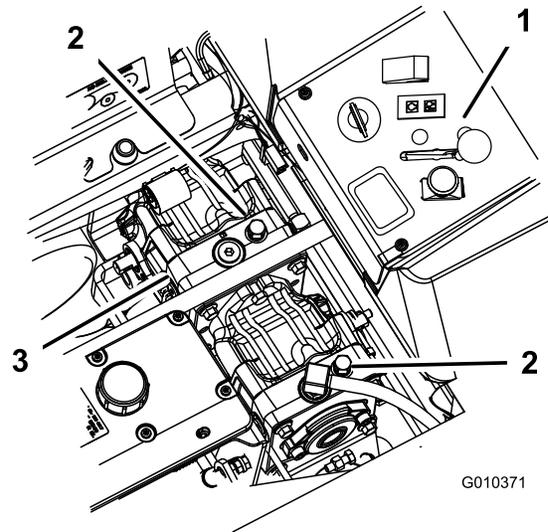

Figure 41
3. Rotate the bypass valves counterclockwise 1 turn to push (Figure 41).
Rotate the bypass valves clockwise 1 turn to operate machine (Figure 41).